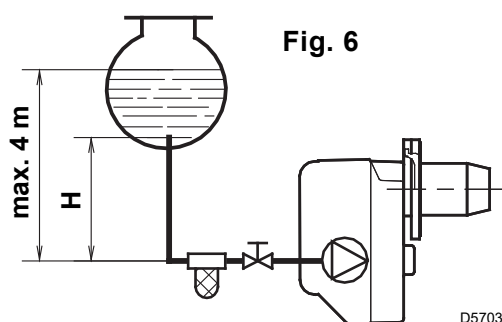
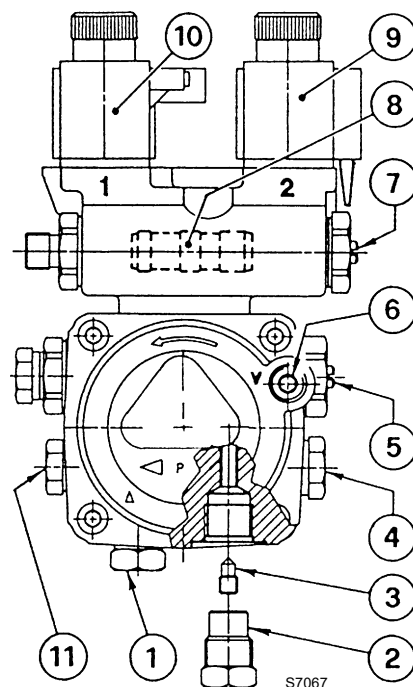

Fig. 6
Fig. 7
- The pump is designed to allow working with two pipes. In order to obtain one pipe working it is necessary to unscrew the return plug (2), remove the by-pass screw (3) and then screw again the plug (2), (see Fig. 7).
On the system in Fig. 6 it is sufficient to loosen the suction gauge connection (6, Fig. 7) and wait until oil flows out.